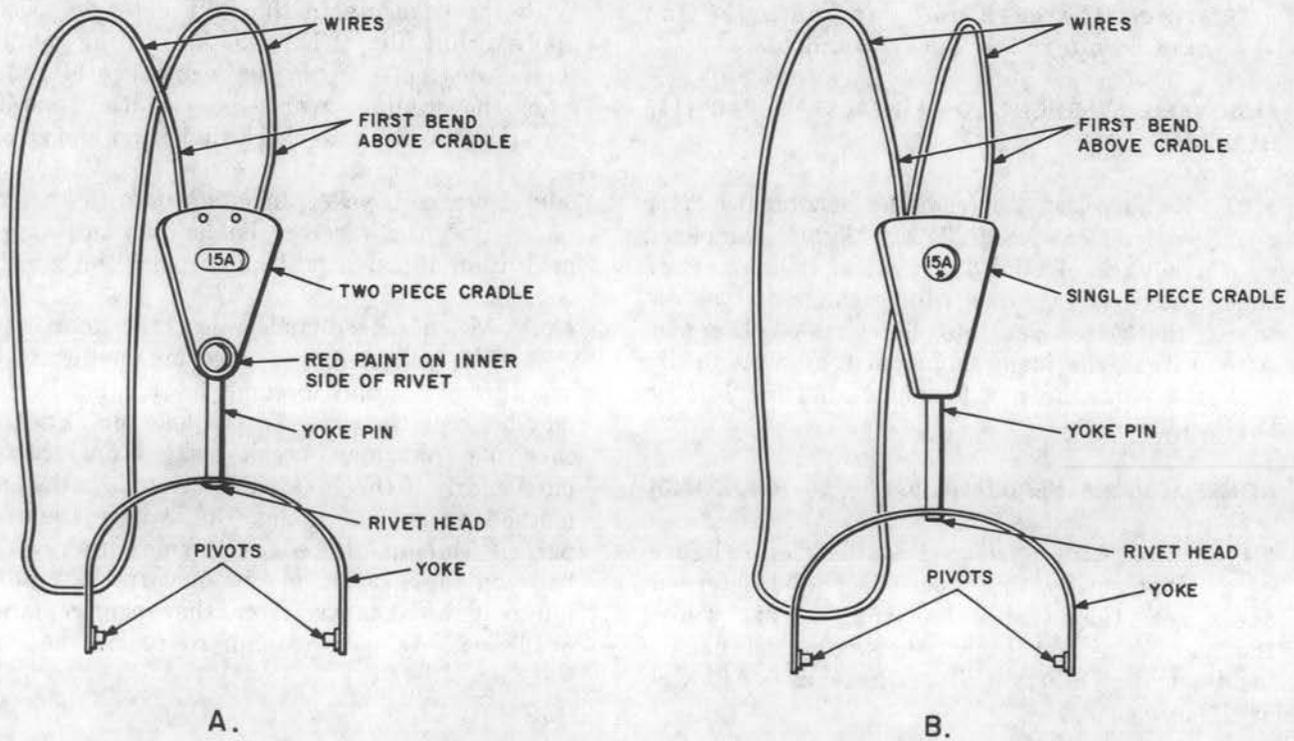

Fig. 15—Headband
**6.06** Do not attempt to repair headbands when the headband wires are marked sufficiently to impair their strength. Disregard nicks or cuts of a minor nature, such as rub marks or flattened areas at the first bend just above the cradle as shown in Fig. 15. Replace any headband on which nicks are deep enough to snag the fingernail as it is run along the wire.